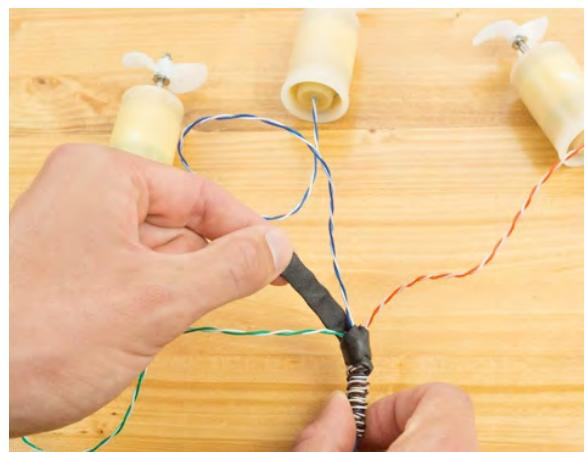

Figure 41
- Interweave (wind) a strip of the poly butyl rubber tape around the wire pairs where they emerge from the outer jacket of the tether cable. Knead and work it in so that it seals both around and between the wires and forms a smooth seal over the jacket opening to prevent water from getting inside the tether cable. (Figure 41)